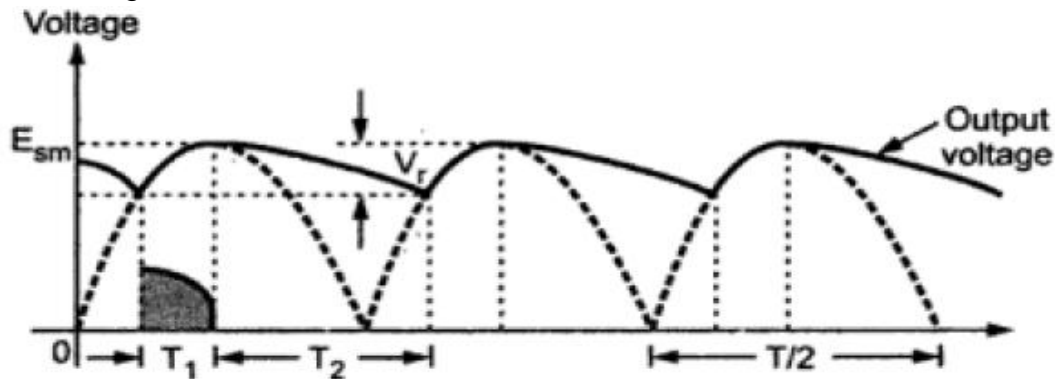

Fig. 1.42 Derivation of ripple factor
- Consider an output waveform for a full wave rectifier circuit using a capacitor input filter, as shown in the Fig. 1.42.